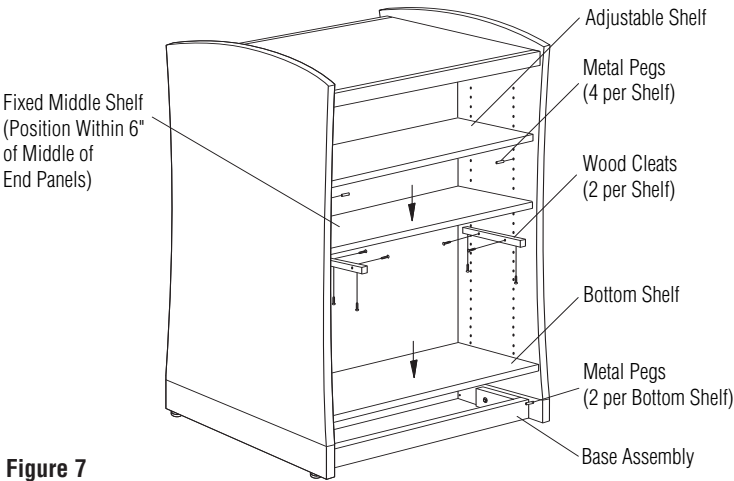

Figure 7
11. Fixed center shelf. For 60", 72", 82" and 96" high units, measure up half way on the end panels. Within 6" of this dimension, determine desired shelf location. Attach wood cleats to the bottom side of the fixed shelf using #8 x 1/4" screws. One cleat is needed for each side of shelf. Rest shelf on four metal pegs. Attach fixed shelf with cleats to the end panels using #8 x 1/4" screws (Figure 7).
12. Bottom shelf. Insert (4) metal pegs into pre-drilled holes just above the base assembly. Lay bottom shelf with routed side down routed grooves rest on the pegs and align onto metal pegs. Repeat for each unit. (Figure 7).
13. Adjustable shelves. Insert (4) metal pegs into pre-drilled holes at desired adjustable shelf heights. Set each shelf onto the metal pegs with routed side down routed grooves rest on the pegs. Repeat for each adjustable shelf (Figure 7).